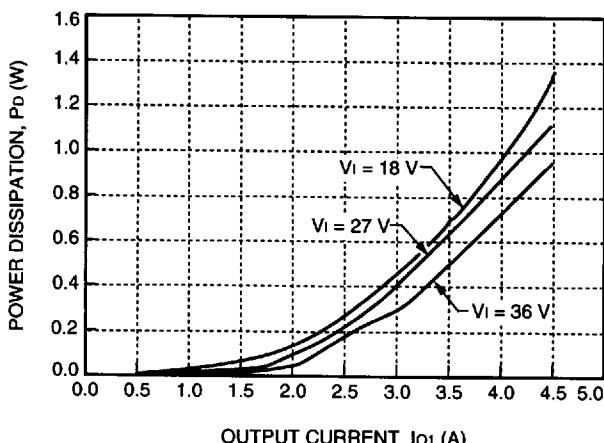

Figure 25. CC025ABK, CC025ACL Losses,
3. Use the desired output current (I_{O1}) with Figure 25 to determine P_{S1} , which is the additional power being dissipated due to loading of the main output.
$$P_{S1} = 0.22 \text{ W (from Figure 25)}$$